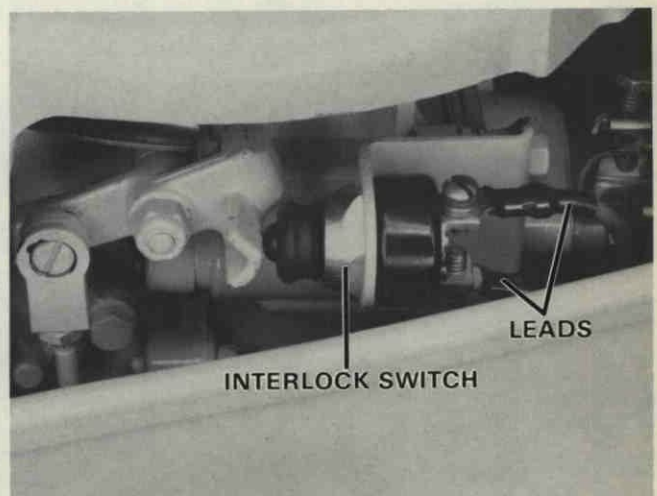

Figure 60. Connecting Leads to Interlock Switch.
1. Connect red lead from starter switch to top terminal on interlock switch and secure with lockwasher and screw. Figure 60. Connect red lead